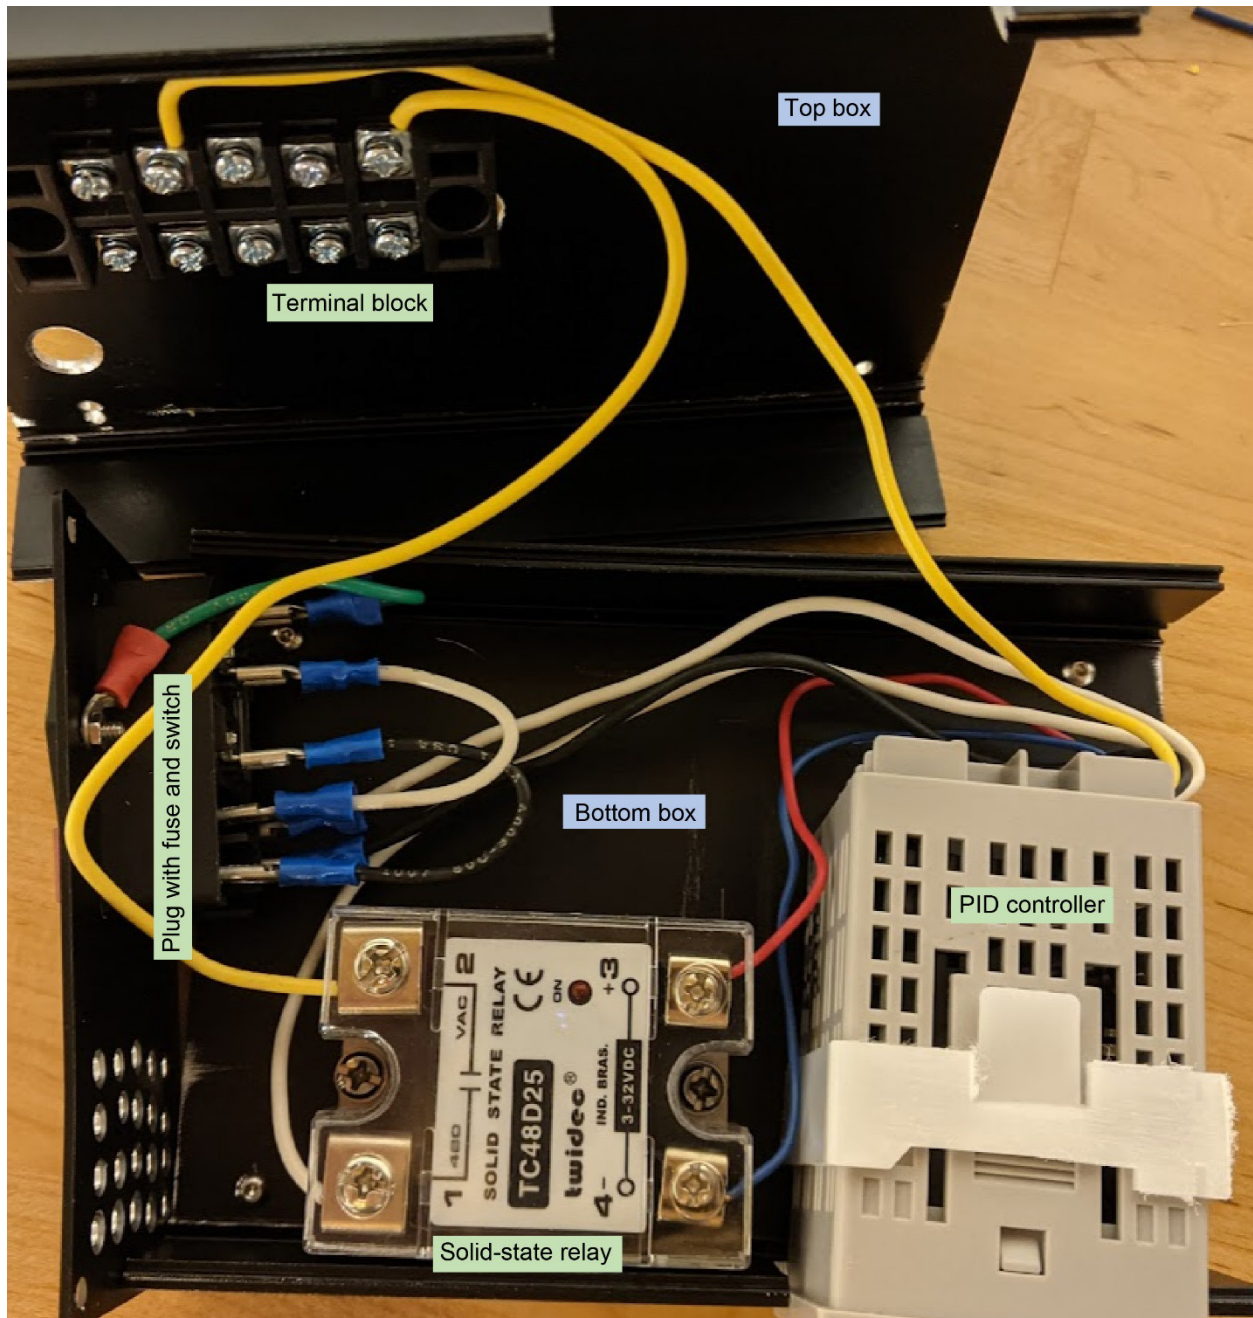
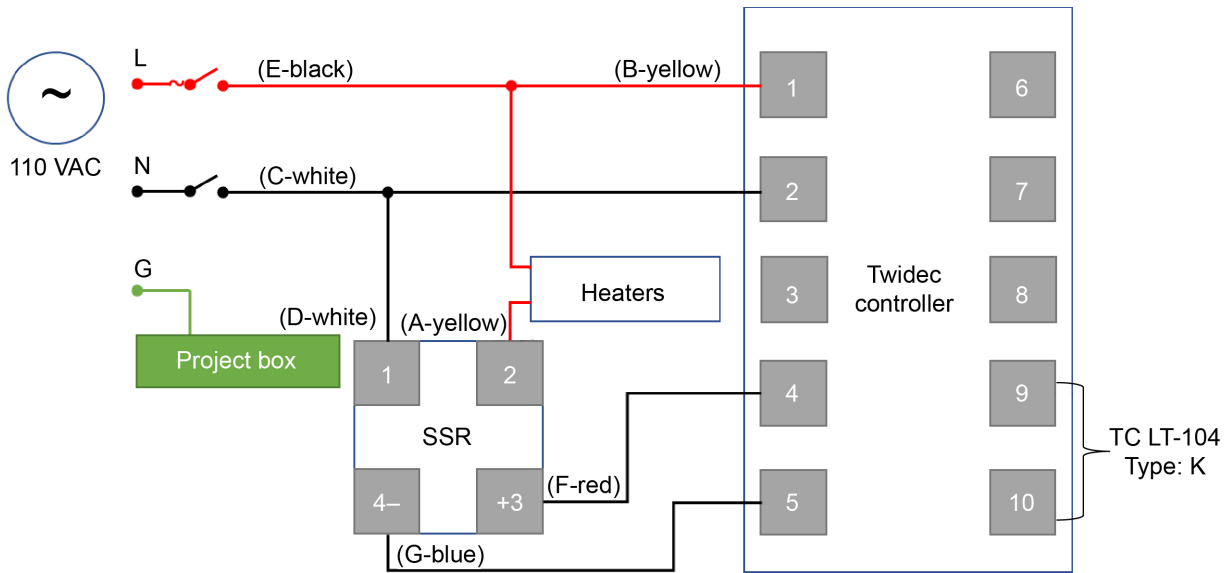
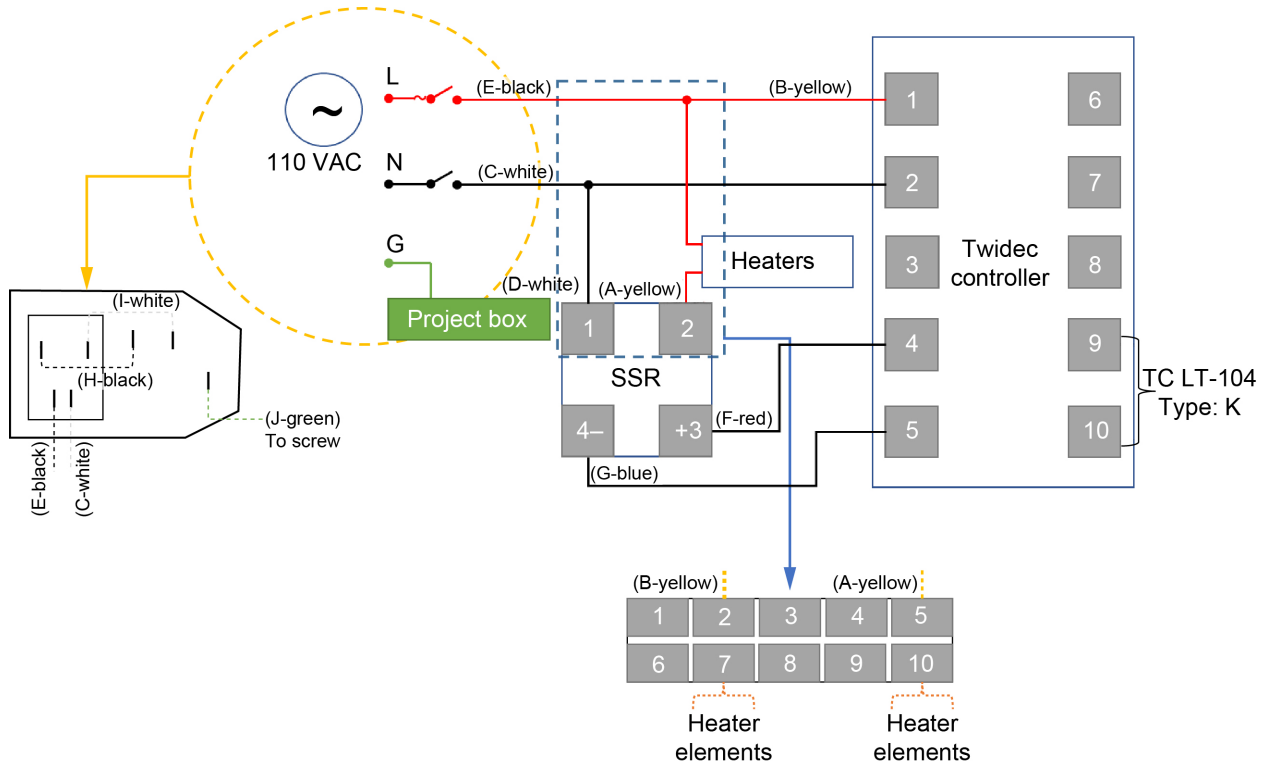

Figure 9.—Black box wiring connections.
Figure 10.—Wiring schematic for black box (electronics) without details of terminal block pins.
Figure 11.—Black box wiring schematic with details of terminal block pins.
Figure 9 offers an overview of the wiring connections inside the black project box prior to putting the top and the bottom of the box together. Figure 10 and Figure 11 show the wiring schematic without and with details of the terminal block pins.
At this point, all the components for the black electronic controls box should be wired together outside of the box with the exception of the TC and heater elements. If this is not yet complete, refer to the photos in the Electrical Wiring section (Figure 9 to Figure 13).
- Fit the PID controller into the cutout square (as shown in Figure 10) and close the black project box.